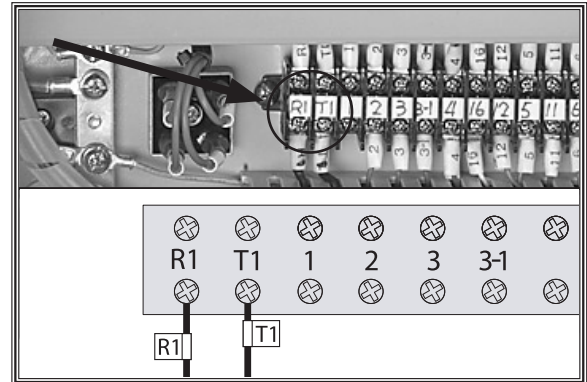

Figure 5. Laser electrical connection.
8. Connect the R1 and T1 laser power wires to their respective R1 and T1 terminals on the electrical panel (see Figure 5).